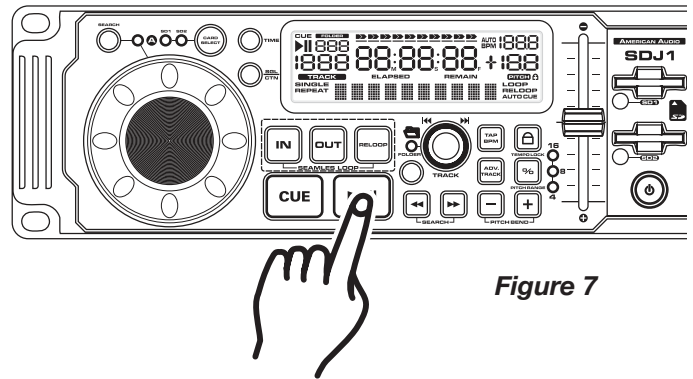
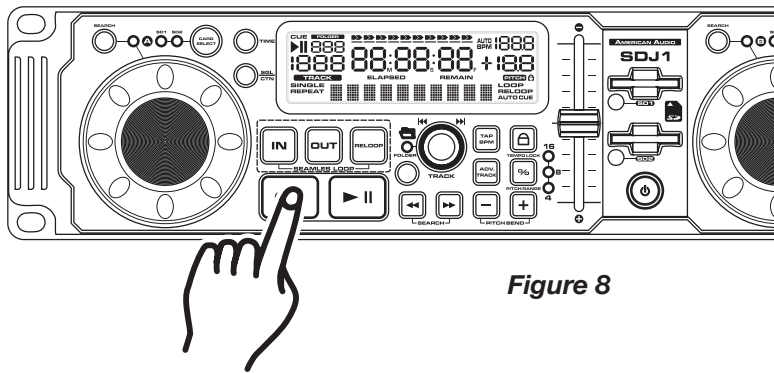
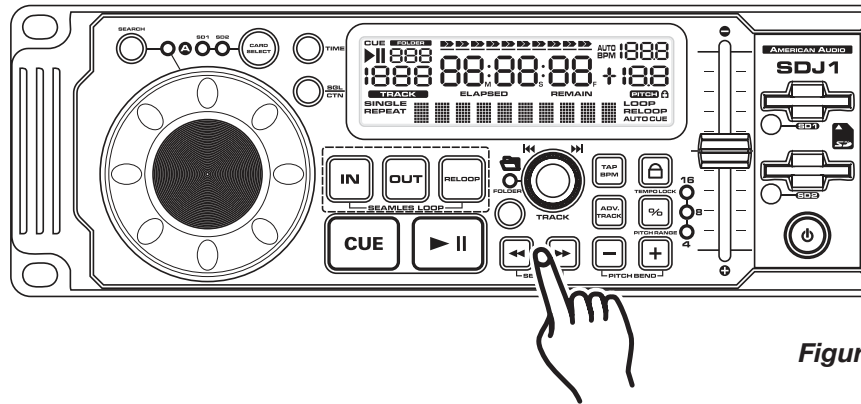

Figure 7
Figure 8
Figure 9
3. STARTING PLAYBACK - Figure 7
4. PAUSING - Figure 7
5. STOPPING PLAYBACK - Figures 7 & 8
This feature allows you to scroll through a track frame by frame, allowing you to find and set a starting cue or loop point. To use the scroll function you must first be in Pause Mode (see section 4) or Cue Mode (see section 8). Once you are in Pause or Cue mode, press the *SEARCH BUTTONS* (17) to scroll through the track (Figure 9). When you use the *SEARCH BUTTONS* (17) the monitor (headphone level) function allows you to hear what you are scrolling through. Once you reach your desired starting point you can set a cue (starting) point by pressing the *PLAY/PAUSE BUTTON* (18) as in Figure 7. Pressing the *CUE BUTTON* (19) as in Figure 8 will now return you to the point you just set.